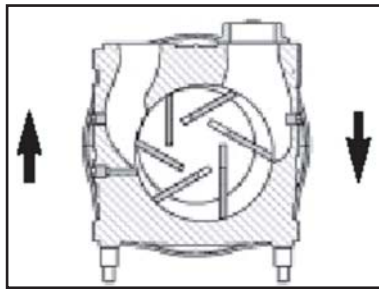

Figure 3 - Rotation
3. Ensure that the compressor rotates in the direction of the arrows cast on the body. See Figure 3.